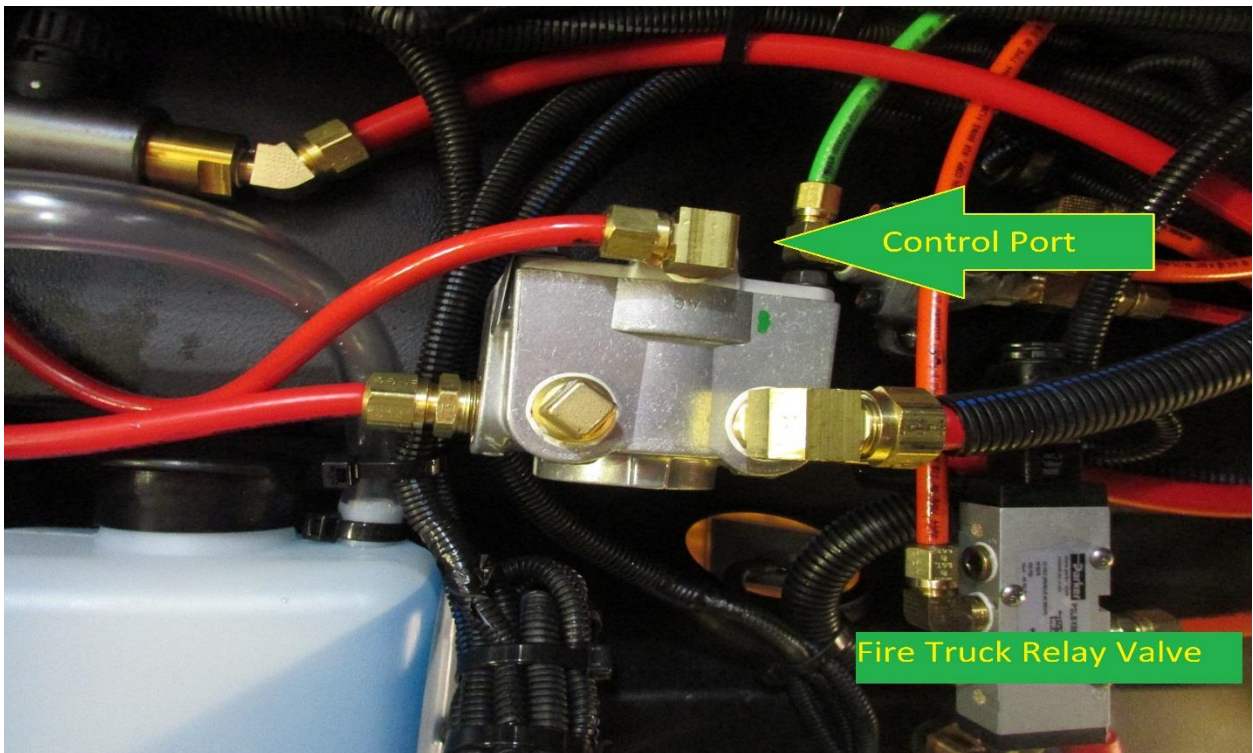

FIG. 2-1
2. Locate relay valve located behind drive side step well. Refer to FIG. 2-1.